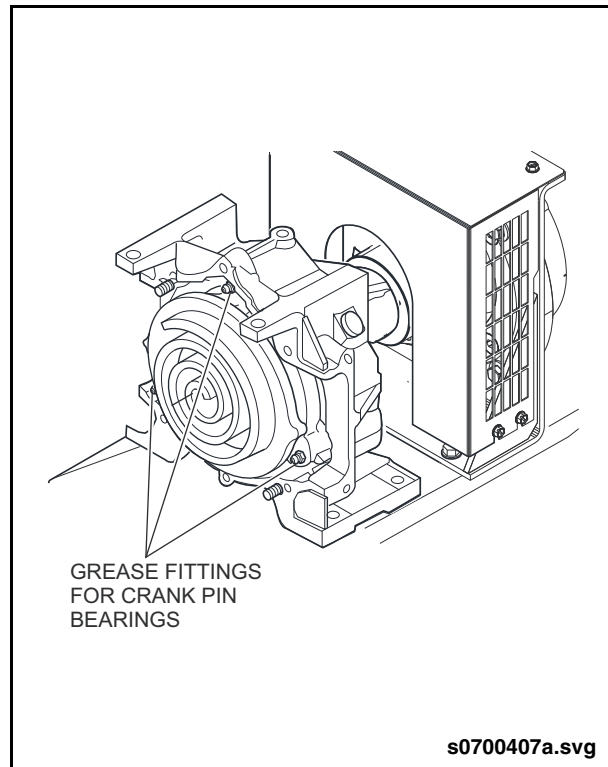

Fig. 3: Crank Pin Bearing Lubrication
4. Locate the three grease fittings on the crank pin bearing and apply seven full pumps of the grease gun to deliver the correct amount of grease to the bearings. See “Fig. 3: Crank Pin Bearing Lubrication” on page 5.